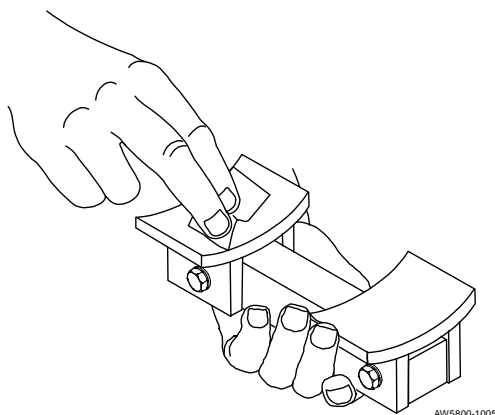

Figure 25. Cleaning Bracket Assembly
- A. Clean the underside of the bracket assembly (p/n: 010-0088-002) with (1) of the supplied alcohol pads (p/n: 350-0035-000). See Figure 25.